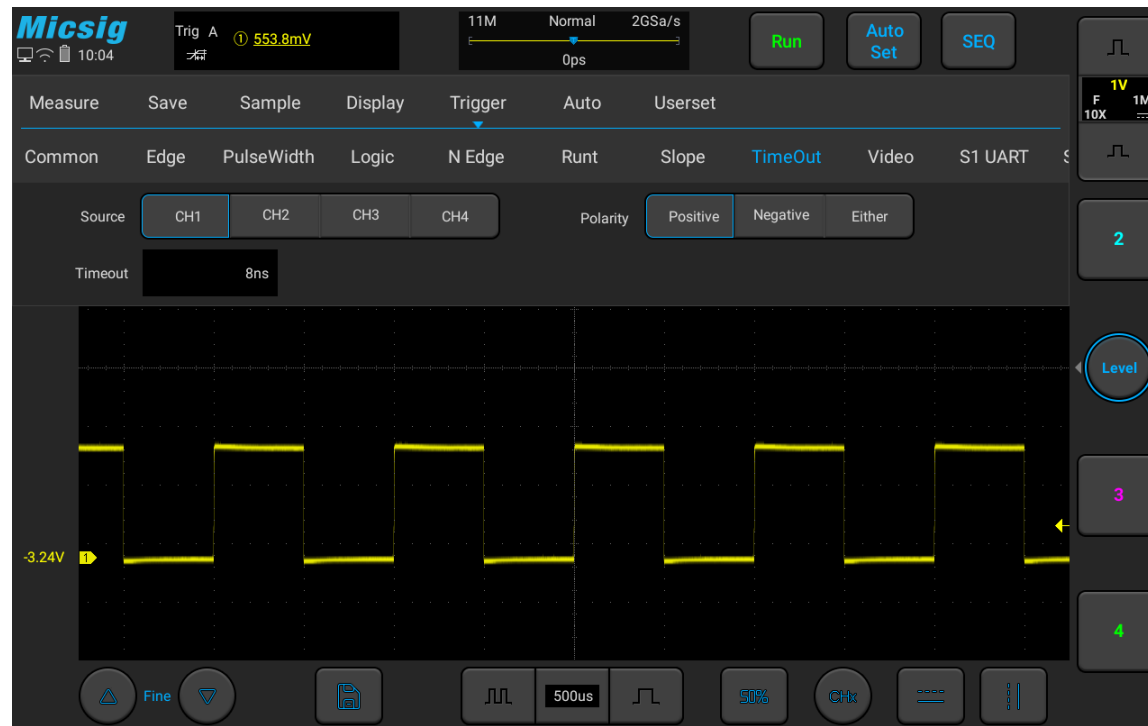

Figure 5-29 Time-out Trigger
- 1) Tap “Trigger” on the main menu to open the trigger menu, select timeout trigger in the trigger type, and set the timeout trigger as follows, as shown in Figure 5-29: